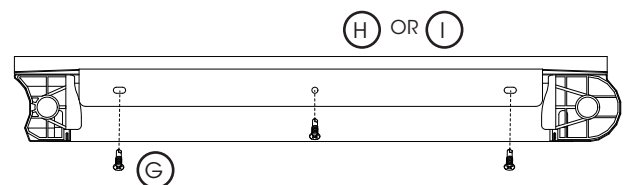

Fig. 1.3
- Place the panel seal (H) or (I) on the end stile at each end of the panel and ensure they fit lip to lip as per Fig 1.3.
- Insert one tek screw (G) in each of the end slots, check and adjust (bend of seal should be touching panel face), before fitting tek screw to centre hole to lock in place as per Fig 1.3.